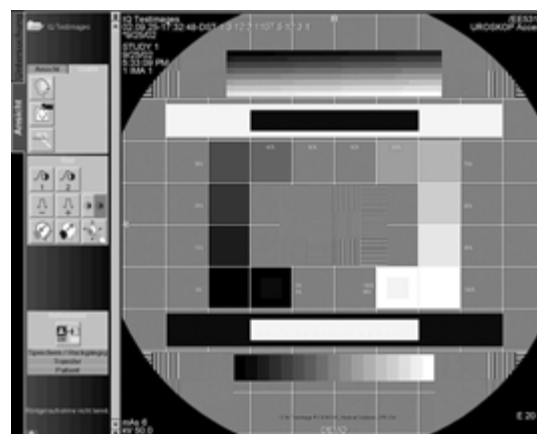

Fig. 21: EXP_test pattern exposure
- For the adjustment, download the "EXP_TestbildExposure" from the local database (Fig. 20 / p. 37) in the Patient List under "IQ Test Images" to the Viewer (Fig. 21 / p. 37) and display the test image on the particular monitor.
- For the adjustment, download the (Fig. 21 / p. 37) test image from the local database in the Patient List under "IQ Test Images" (Fig. 20 / p. 37) to the Viewer (Fig. 21 / p. 37) and display the test image on the particular monitor.